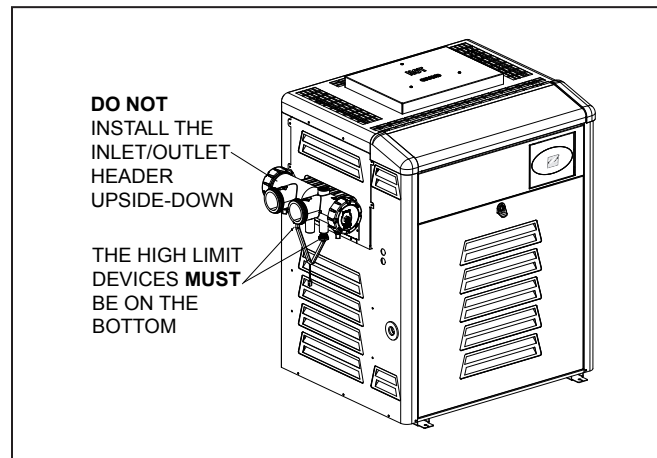

Figure 9. Water Connections Reversed
12. Place the inlet/outlet header over the bolts and gasketed tubes on the left side of the tube assembly. Make sure the high limit devices are on the bottom. Refer to Figure 9. Align the bolt and tube holes in the header with the bolts and tubes in the header bar and slide the assembly together.